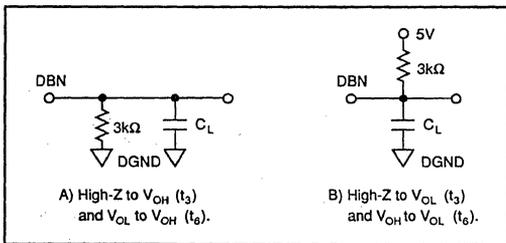
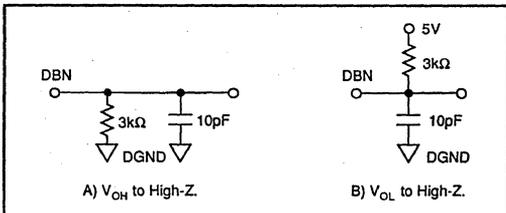

FIGURE 1. Load Circuits for Access Time.
FIGURE 2. Load Circuits for Output Float Delay.
NOTES: (1) TTL, LSTTL, and 5V CMOS compatible. (2) FSR means Full Scale Range. For example, unit connected for $\pm 10V$ range has 20V FSR. (3) Externally adjustable to zero. (4) See Table I. USB – Unipolar Straight Binary; BTC – Binary Twos Complement; BOB – Bipolar Offset Binary; NRZ – Non Return to Zero. (5) Max supply current is specified at rated supply voltages. (6) All input control signals are specified with $t_{Rise} = t_{Fall} = 5ns$ (10% to 90% of 5V) and timed from a voltage level of 1.6V. (7) t_{13} is measured with the load circuits of Figure 1 and defined as the time required for an output to cross 0.8V or 2.4V. (8) t_{16} is defined as the time required for the data lines to change 0.5V when loaded with the circuits of Figure 2.